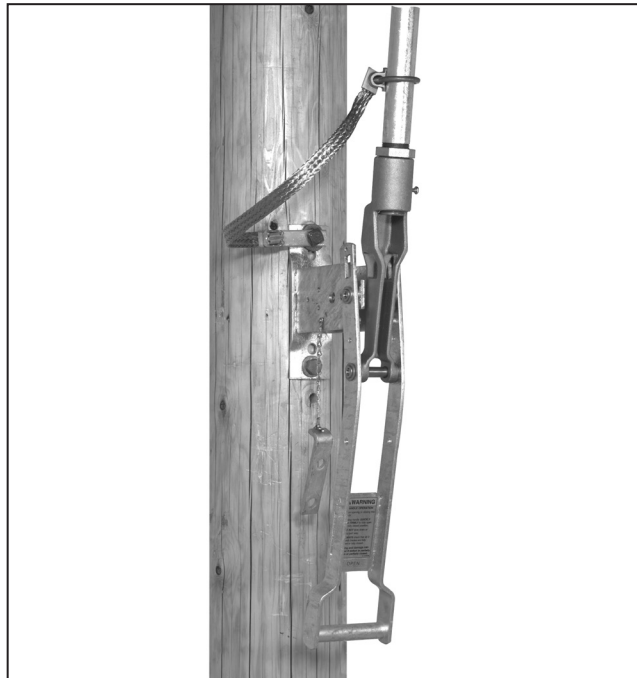

Figure 37. Withdrawing locking bar and disengaging key interlock bolt.
**STEP 29.** Remove the padlock from the locking bar on the operating handle assembly. Withdraw the locking bar. See Figure 37.